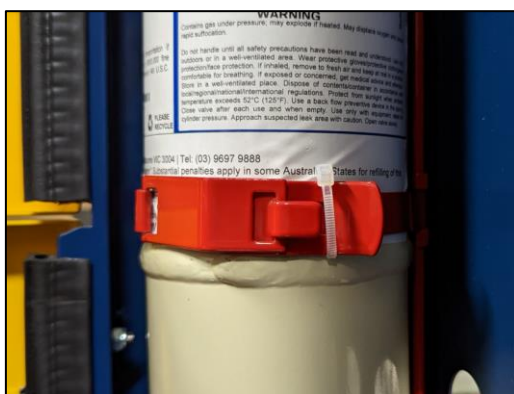

Figure 7 - Gas cylinder with cable tie on clasp
8. Engage the bracket clasp to hold the cylinder firmly in place. Before locking the clasp in place, run a new cable tie between the clasp and the bottle. Lock the clasp, and then wrap the cable tie around the clasp to secure it, as seen in Figure 7.